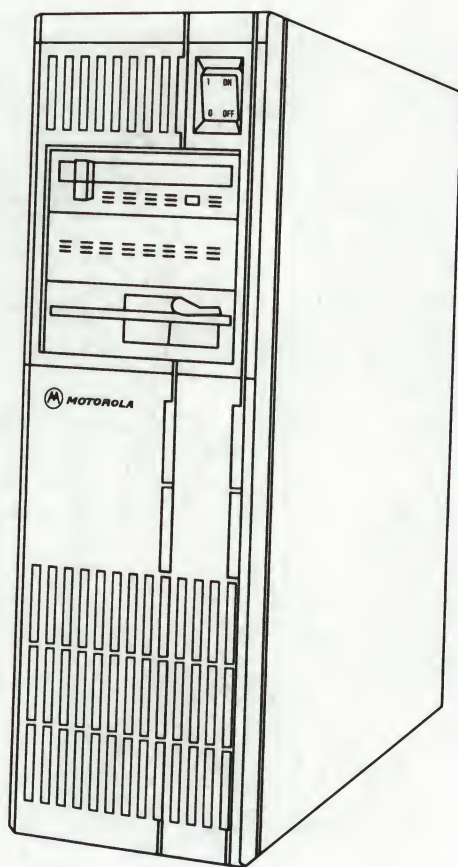

FIGURE 2-1. Model 2334 Front View
A front view of one configuration of the Model 2334 is shown in Figure 2-1. The following items may be identified:
The system power switch is located at the upper right side of the front of the system (refer to Figure 2-1). Move the rocker switch to the ON (1) position to power up the system or to the OFF (0) position to power down the system. When the system is powered up, a reset is also performed.